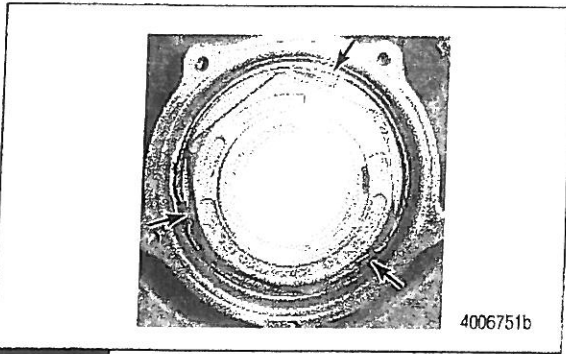
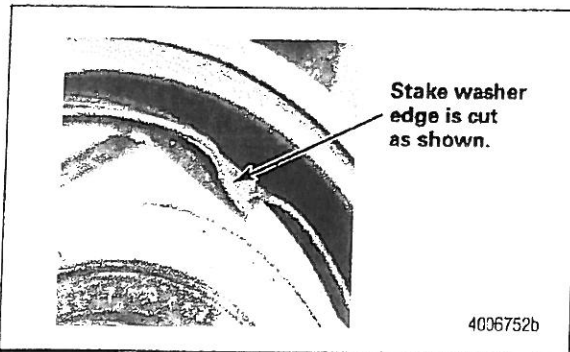

Figure 3
Figure 4
- Use a hammer and staking tool (part number AM21225831) to stake the stake washer to the nut in three positions. Bend the washer to the stake profile as shown. Figure 3 and Figure 4.
- A. Tighten the spindle nut to 810-850 lb-ft (1100-1150 N-m). Stake the stake washer to the spindle nut in three positions as shown in Figure 3. ①
- D. Tighten the hubcap screws in a crisscross pattern to 10-15 lb-ft (13-20 N-m). Record the end play. If total movement is 0.003-inch (0.08 mm) or greater, proceed to Thread Inspection. ①